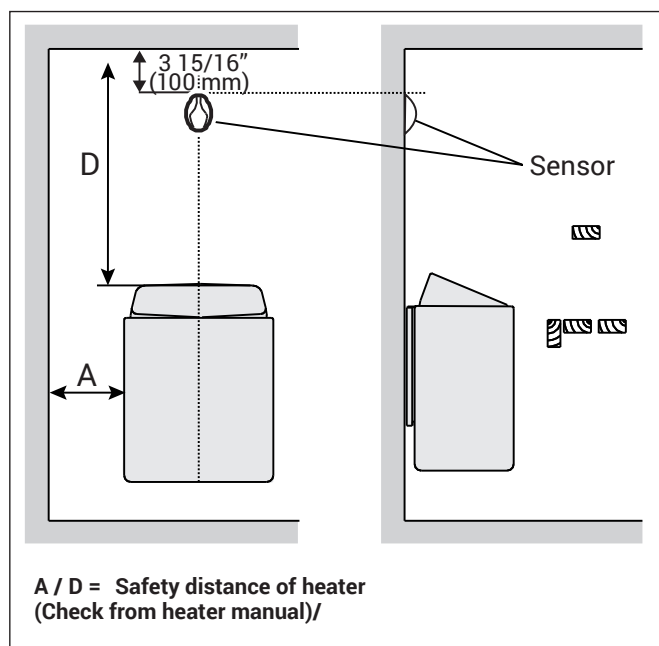

Figure 8. The place of the temperature sensor of the control unit in connection with wall-mounted heaters
6.3 Wall-mounted heaters (see Figure 8)